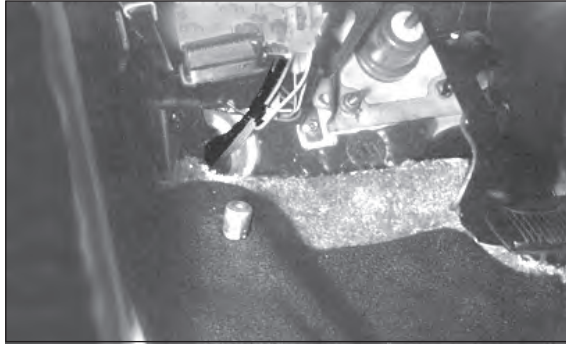

fig. 18
1. Route the harness (A) from the dash panel through an existing grommet in the floorboard or firewall (Fig. 18).